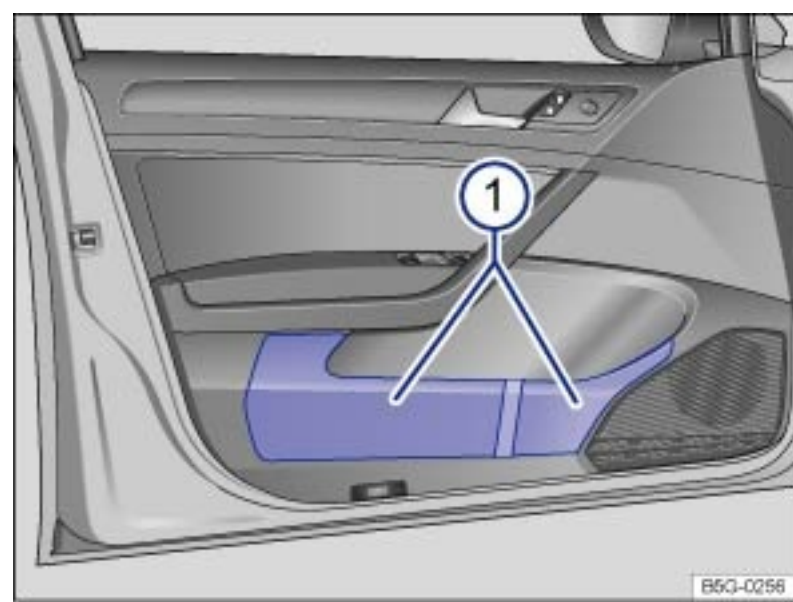

Fig. 115 In the driver door: Storage compartment.
There is a storage compartment in each vehicle door → Fig. 115 ①.